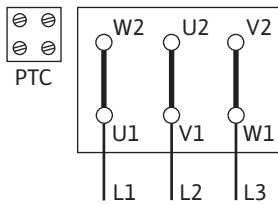
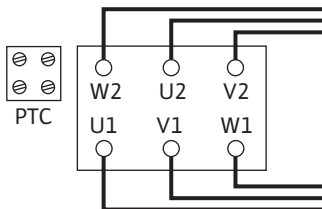

Fig. 10: Y-Δ start
Fig. 11: Δ connection
- The mains connection is dependent on the motor power P_2 , mains voltage and activation type. Refer to the following table and Fig. 10 and Fig. 11 for the required connection of the connecting bridges in the terminal box.
Y-Δ-start (standard)	Remove connecting bridges (Fig. 10).
Start via soft starter	Δ connection (Fig. 11)